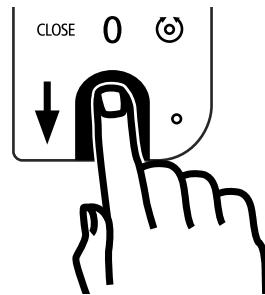

Fig. 8
- 2 Move the fingertip of the registered finger from top to bottom over the sensor field (Fig. 8).